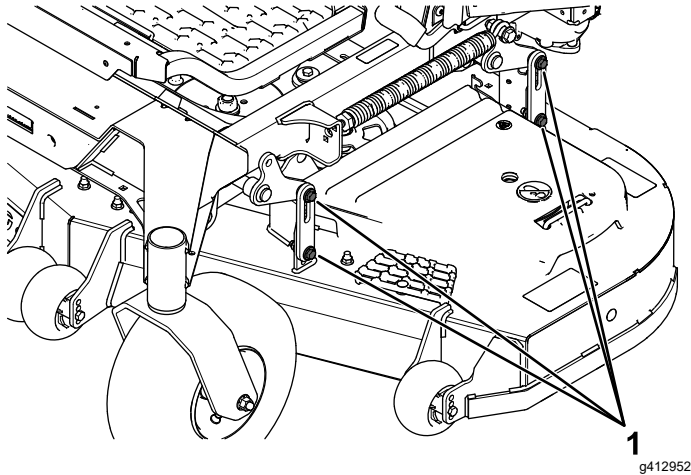

Figure 90
16. Loosen the bolts (Figure 90) on all 4 corners and ensure that the mower deck is sitting securely on all 4 blocks.